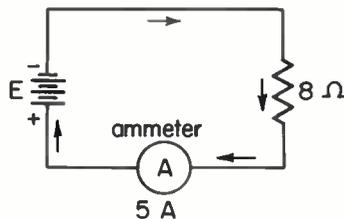
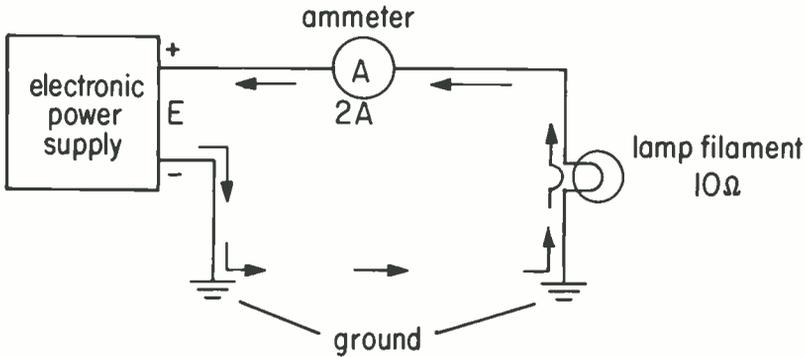

Fig. 17 The battery forces current through the resistance against the opposition of the resistor.
Fig. 18 A DC circuit using an electronic power supply.
12 OHM'S LAW FOR VOLTAGE . . . The ammeter in Fig. 17 indicates that the battery is forcing 5 A of current through the opposition of the 8- Ω resistor. For the current to be 5 A, the voltage (E) must be a certain definite value. If the voltage is lower than required, it will not have enough force to push 5 A through the resistor, with the result that the current will be less than 5 A. On the other hand, if the voltage is too high, the current will be more than 5 A.
Hence, the voltage of the battery E in Fig. 17 is 40 V.
Now let's consider a more practical problem. In the problem illustrated in Fig. 18, instead of using a resistor for the circuit load as we did in the preceding example, we'll use the filament of a lamp. All you have to do to prove to yourself that the filament has resistance is to note its color when voltage is applied. As current passes through it, the filament becomes red and then white, indicating the presence of heat. And heat, you will recall, is due to the presence of resistance.
Also, instead of using a battery as the voltage source as we did in Fig. 17, in Fig. 18 we'll use the DC output voltage of an electronic power supply. The negative terminal of the power supply is connected to ground, as is the lower end of the lamp filament. (Ground is usually the metal chassis on which the components making up an electronic circuit are mounted.) As far as the current is concerned, the chassis acts in the same way that any other metallic conductor of negligible resistance would act. Thus, as shown, current still flows from negative to positive. We also have an ammeter connected between the upper end of the filament and the positive terminal of the power supply to measure current.